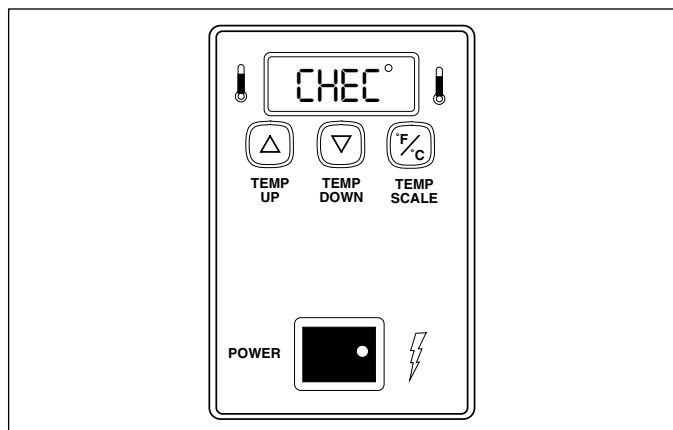

Figure 6. “CHEC” Fault Message
2. Press and hold both **TEMP UP** and **TEMP SCALE** buttons for over 1 second until the display flashes the setpoint temperature (Figure 6), then release.
“CHEC” will flash (Figure 6) when the control compartment ambient temperature is excessive: 140°F (60°C) to 180°F (82°C). All heaters will shut off.